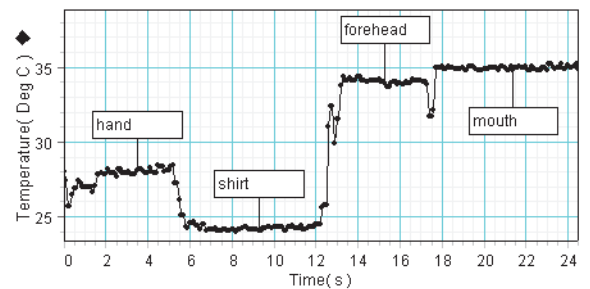

Figure 1.3: Various body parts
- Measure the temperatures of your hand, face, clothes, and the inside of your mouth (Figure 1.3).